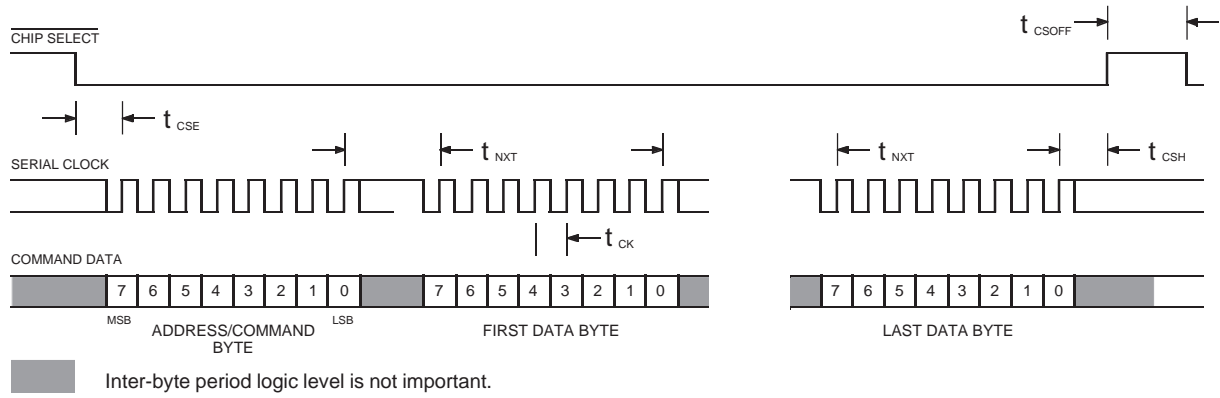

Fig.6 "C-BUS" Timing Information
**Command Loading** Address/Commands and data bytes must be loaded in accordance with the information given in Figure 6 (Timing ).